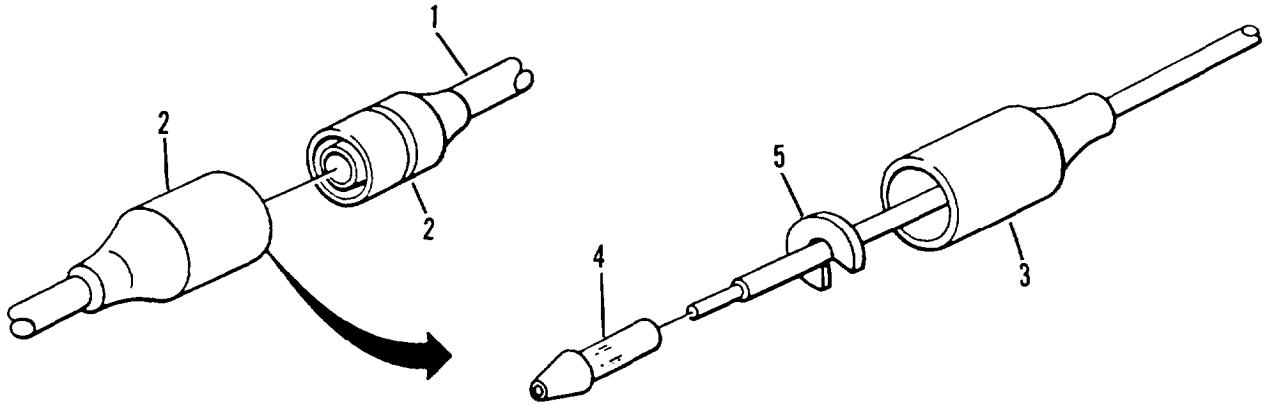

Figure 4-16. Male connector repair
- (1) Separate halves of connector (2, figure 4-16).
- (2) Slide shell (3) up wire lead (1) until clear of contact (4) and retaining washer (5).
- (3) Remove retaining washer (5).
- (4) Slide shell (3) off over contact (4).